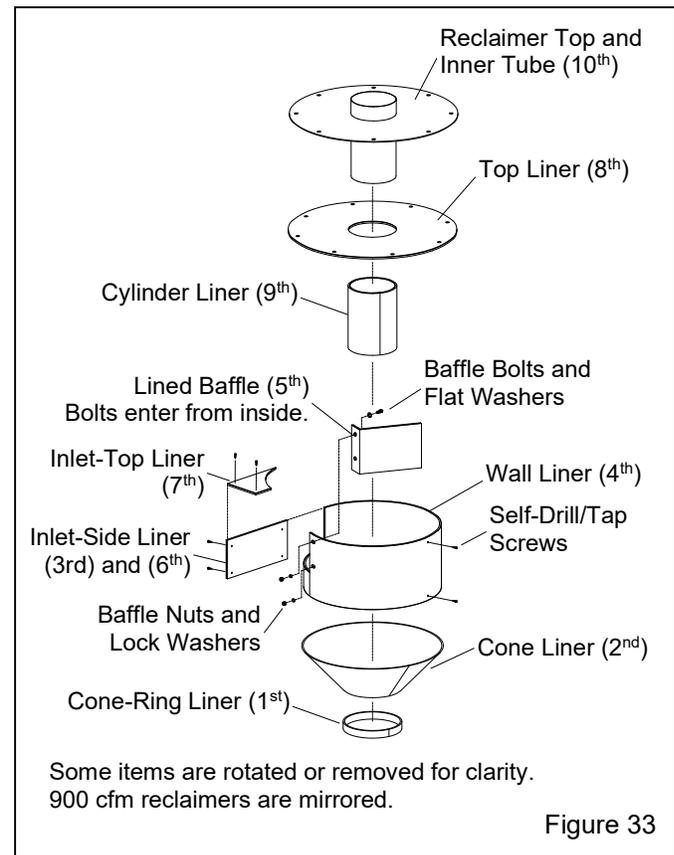

Figure 33
7.12 Replacing or Field Installing Optional Reclaimer Rubber Liners – Figure 33
The reclaimer must be designed to accept liners and have a removable top, as shown in Figure 33. **NOTE: The following instructions are to replace existing liners or field installing new liners into modular-style 600 cfm and 900 cfm reclaimers only. Modular reclaimers have an upper and lower flange and have a removable top. 600 cfm modular reclaimers are provided as of 09/2018.**
Installation Notes: The numbers in parentheses (-) shown in Figure 33 and in the following applicable paragraphs show the recommended order of installation. When installing the liners, make sure that seams are aligned. The final assembly must be smooth and free of protrusions, edges, and gaps. Any edges will disrupt the air flow, causing wear and affecting the reclaimer's media cleaning efficiency.